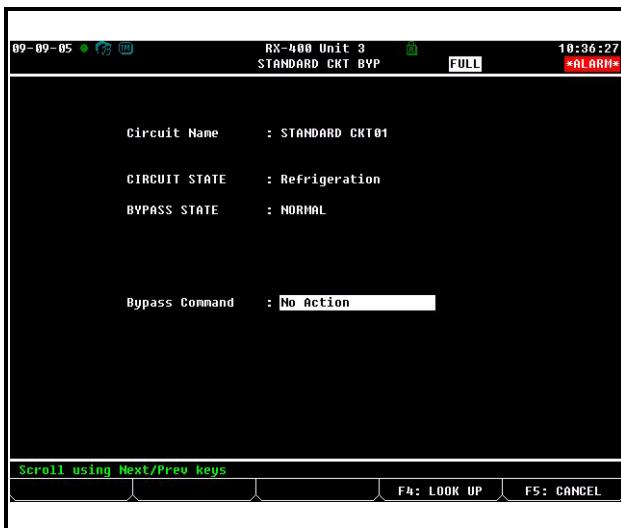

Figure 12-14 - Circuit Bypass Screen (RX-400 Version Shown)
- The Circuit Bypass screen (see **Figure 12-14**) will display the circuit name, its current state, and the bypass state. The **Bypass Command** field will be highlighted.